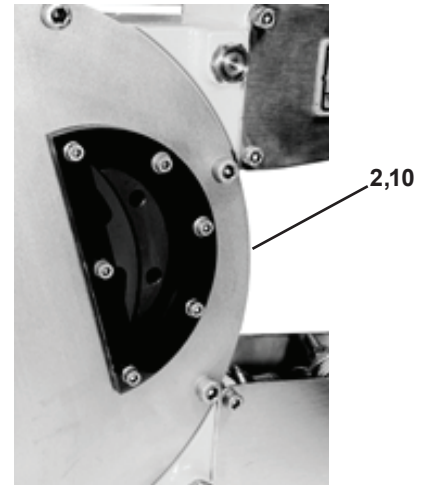
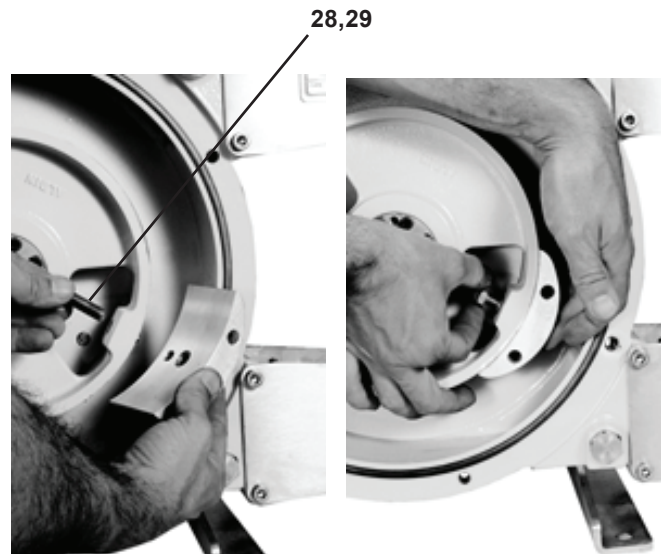

Figure 10
Figure 11
4. Remove the pump cover (2) as well as the cover seal (10). See Figure 10 and Figure 11.
5. Disassemble the shoe which is not in contact with the hose and put aside the shims if any. Check that the pin (30) is still on the wheel (4006, 4007, 4009, 4010).
6. Mount a new shoe on the wheel with shoe bolt (28) and shoe bolt washer (29). Slide the shims (4) between the shoe and the wheel before tightening.